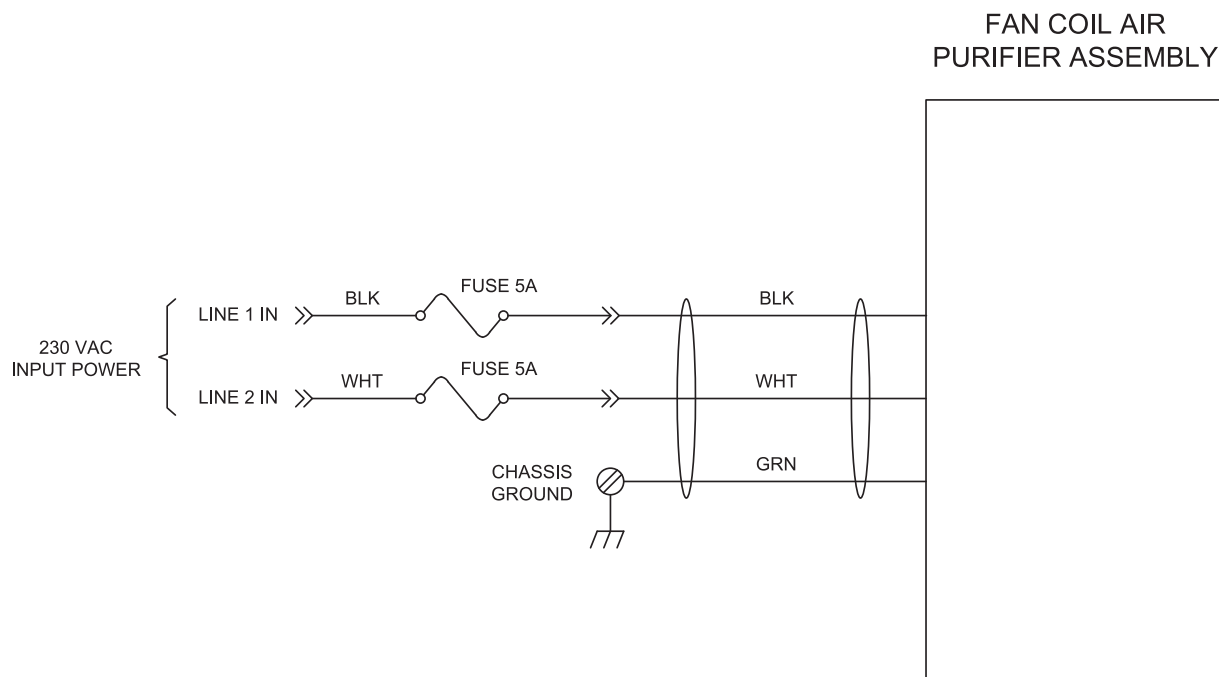

Fig. 13 - Fan Coil Schematic
2. Remove the yellow and black primary wires from the fan coil air handler transformer terminals and connect the quick connect "piggyback" terminals of the in-line fused leads exiting the air purifier power conduit assembly to the transformer terminals. Reconnect the yellow and black primary wires to their respective transformer terminals on the "piggyback" terminals. Attach the ground ring terminal on the third wire to fan coil air handler chassis ground. See Figures 13 and 14.